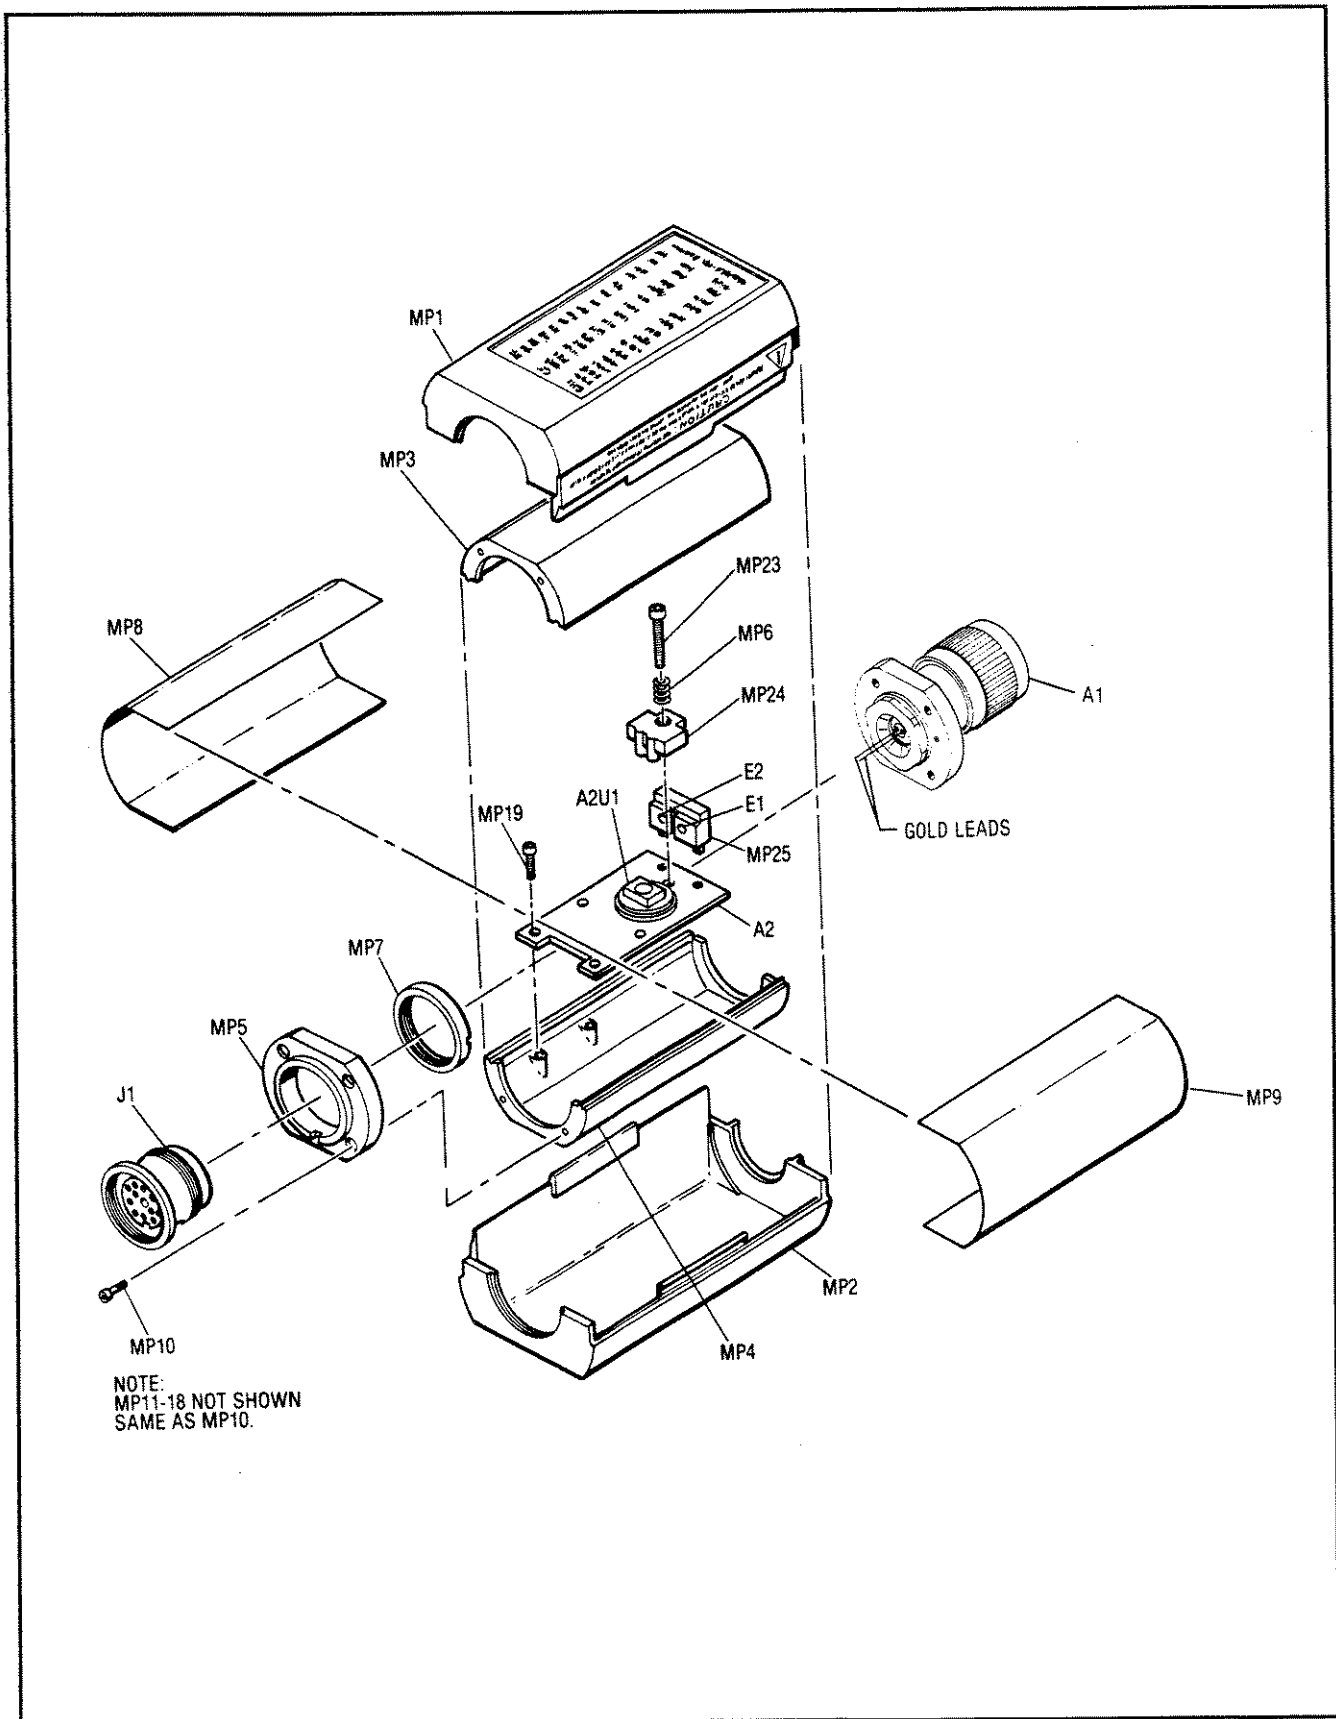
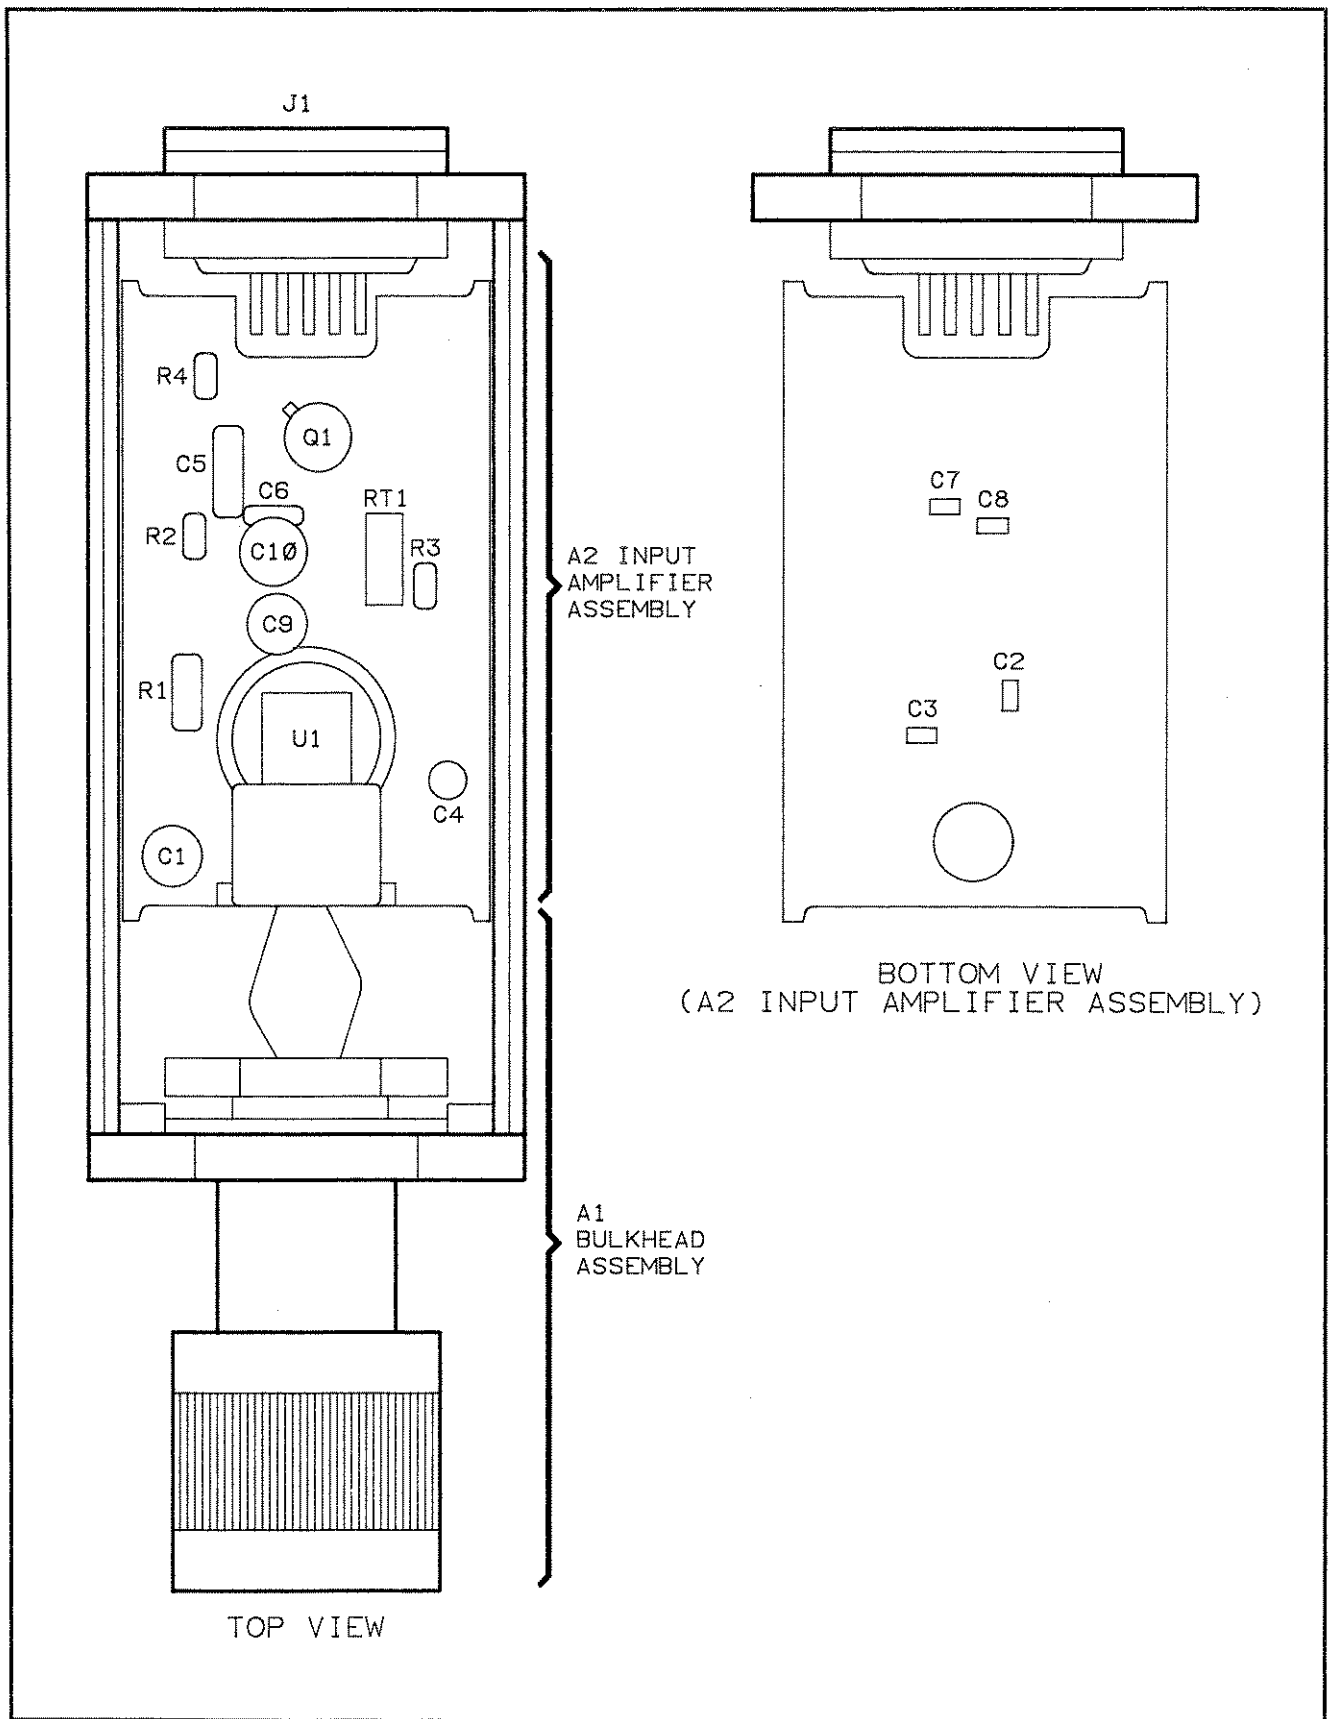

Figure 2. Illustrated Parts Breakdown
Figure 3. Component and Assembly Locations
Table 5 is a list of replaceable parts. Figure 2 is the illustrated parts breakdown (IPB) that identifies the major assemblies and chassis parts. Figure 6 is the IPB that identifies and depicts replaceable parts within the A1 Bulkhead Assembly. The mounting locations of the components on the A2 Input Amplifier Assembly are shown in Figure 3. To order a part, quote the Hewlett-Packard part number and Check Digit (CD), specify the quantity required, and address the order to the nearest Hewlett-Packard office (listed inside cover). To order a part not listed in Table 5, give the instrument model number, instrument serial number, the description and function of the part, and the quantity of parts required.